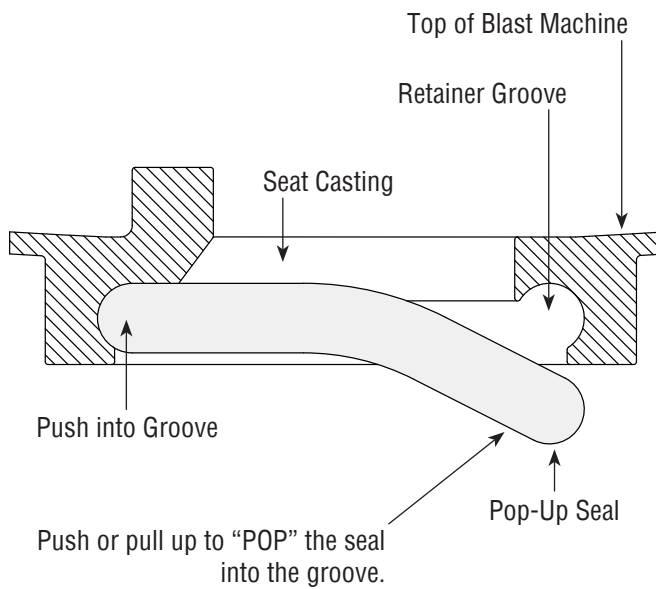

FIGURE 15
7.7 | Pop-Up Valve Seal Replacement – Figure 15